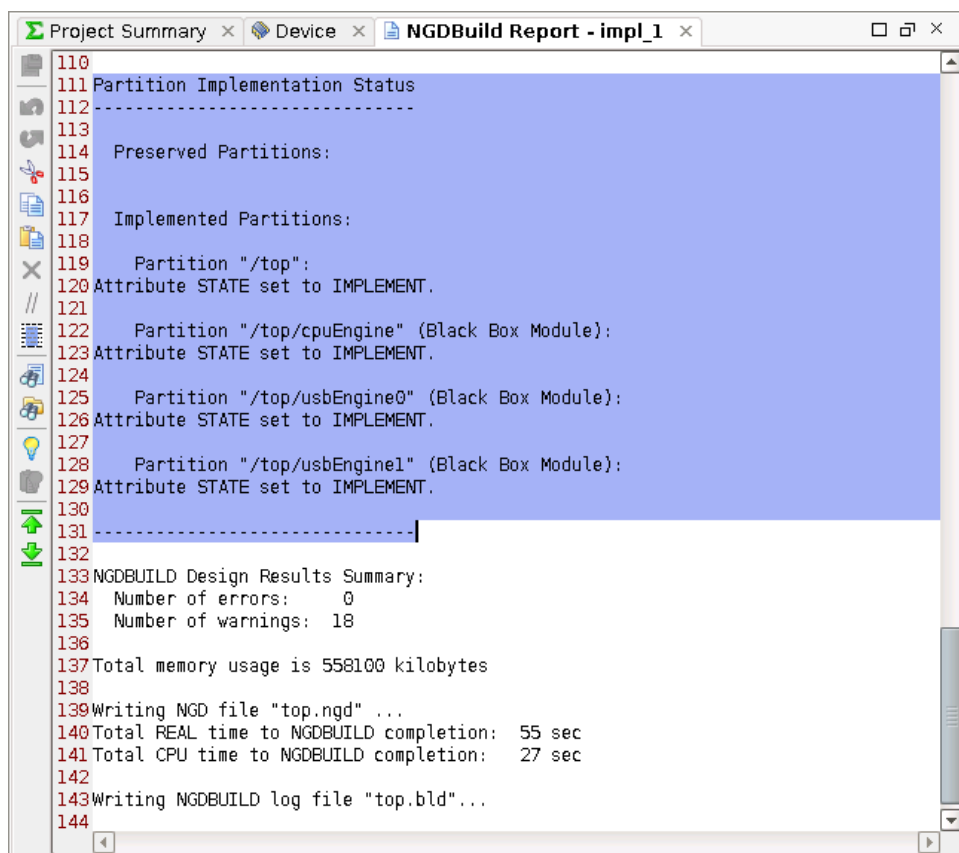

Figure 9: Partition Implementation Status in Report Files
7. The Promoted Partitions view now appears, as seen in Figure 9.